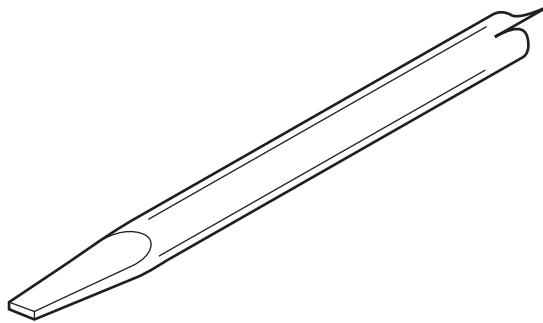

Fig. 5
- (b) Fig. 5 shows a screwdriver blade which has been forged on the end of a piece of high carbon steel.